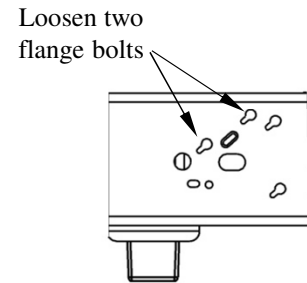

Figure 4b
2. **On Pickups with OE Trailer Brake Controller:** Relocate the electrical plug that is located on the inside of the driver's side frame rail over the rear wheel (Figure 4a). The plug may be removed from the frame by loosening the two bolts on the outside of the frame and pushing the bolt heads through the key hole slots, as shown in Figure 4b. Attach the plug to the angle bracket supplied with the mounting kit. The bracket will be attached to the inside of the frame with a 5/8" bolt at a later installation step.